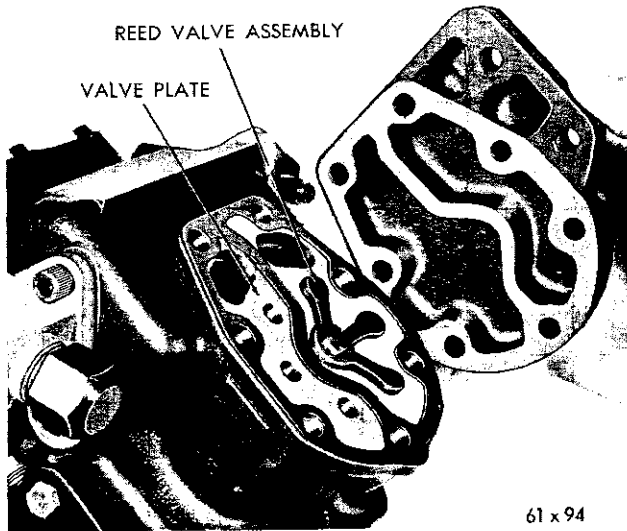

Fig. 40—Valve Plate—Installed Position
(1) The valve plate and the cylinder head must be assembled with the reed assembly, as shown in Figure 40.